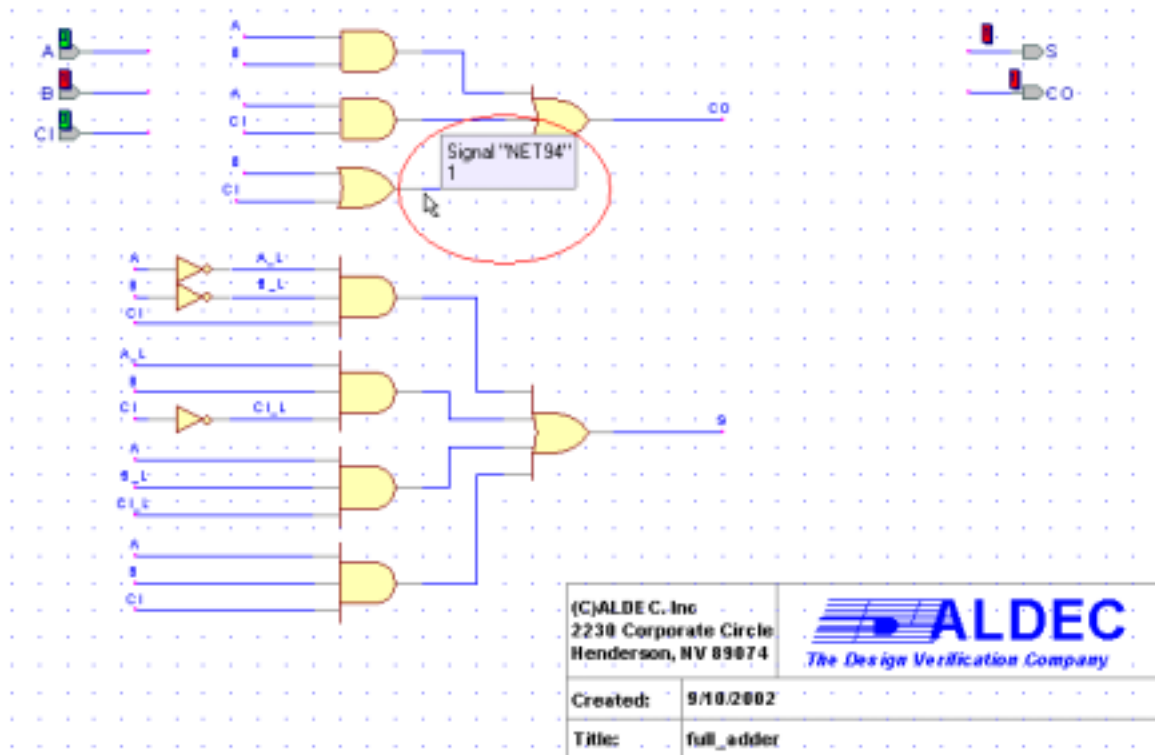

Figure 47
- The sum waveform showed that the sum was correct. Therefore, we focused on the carryout logic. When running a simulation, there are boxes next to each input and output signal in the schematic that display their values throughout the simulation. A green box means the signal is low (0), a red box means the signal is high (1), a yellow box (z) means the signal is unconnected, and a blue box (x) means the signal is unknown. We noticed that after running the simulation for 10 ns that the box next to the carryout output terminal was red (see Figure 47 on the next page). Using the mouse-over feature, we traced the signal from the carryout terminal all the way back to the input signals.